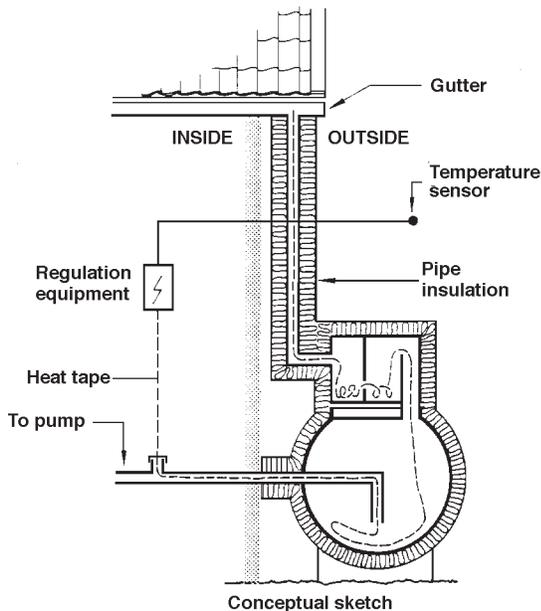

Figure 316
**316** Sediment traps, filters, and plumbing must be secured against freezing. Cold temperatures and snow on the roof, combined with solar heat and snow melt during the day, can lead to a frozen filter system. Figure 316 shows the filter insulated together with the cistern. If this causes problems, the filter can be insulated separately and heated with heat tapes. Problems can also be solved by allowing roof water to bypass the filter outside the cistern in the winter season. If the filter and cistern temperatures are above freezing, a positive heat flow in the downspout will occur and prevent freezing.